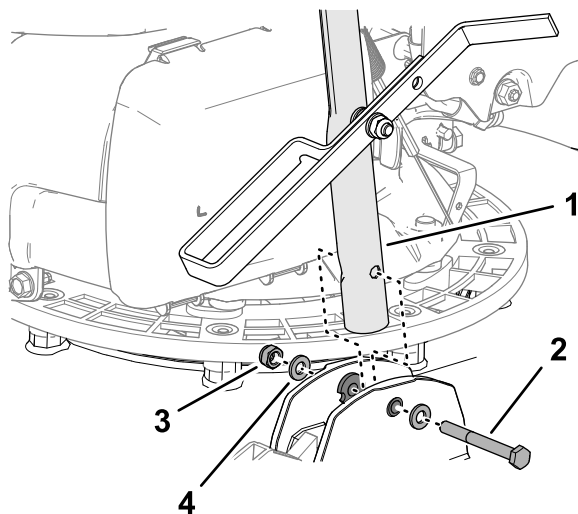

Figure 7
3. Align the hole in the handlebar with the holes in the bushings (Figure 7), and secure handlebar, to the machine with a bolt (6 x 55 mm), 2 washers (6 mm), and a locknut (6 mm).